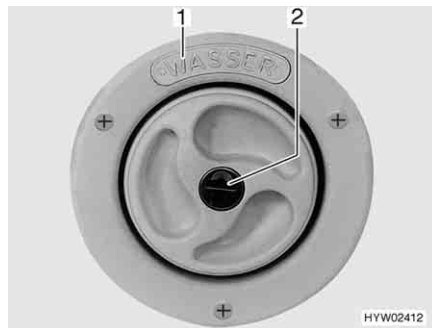
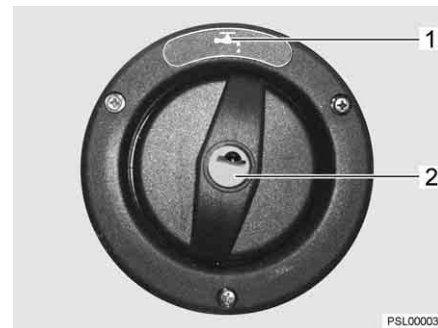

Fig. 177 Cap for the drinking water filler neck
Fig. 178 Cap for the drinking water filler neck (alternative)
The drinking water filler neck is labelled by the word "WASSER" (water) (Fig. 177,1) or marked by the symbol "☰" (Fig. 178,1). The cap is open and closed using the key for the external flap locks.
- Insert key into locking cylinder (Fig. 177,2 or Fig. 178,2) and turn a quarter turn in an anticlockwise direction.